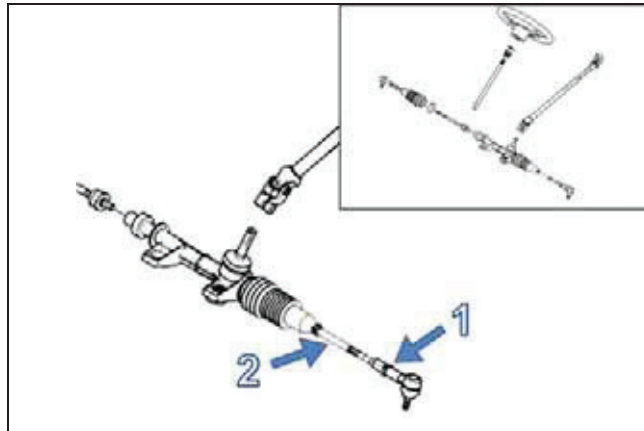

Figure 16
To adjust the UTV's steering system, first, loosen coupling rod nut (1), screw or unscrew the coupling rod (2) an equal number of revolutions on both sides of the vehicle. See Figure 16.
*NOTE: Before loosening a coupling rod nut (1) on the vehicle's steering system, remember that some nuts have reverse threads. Make sure to unlock the nut in the proper rotational direction.*